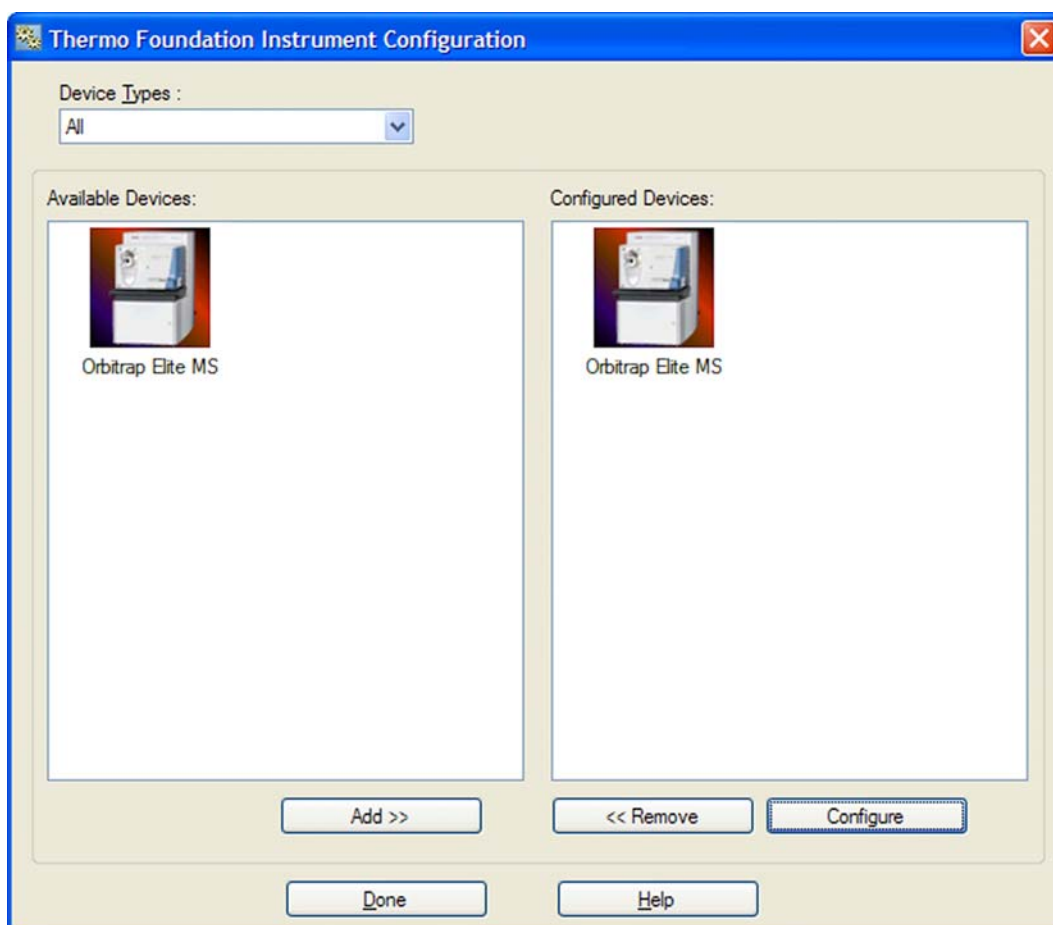

Figure 6-1. Instrument Configuration dialog box
2. Click the Orbitrap Elite MS button in the Configured Devices area. See Figure 6-1.